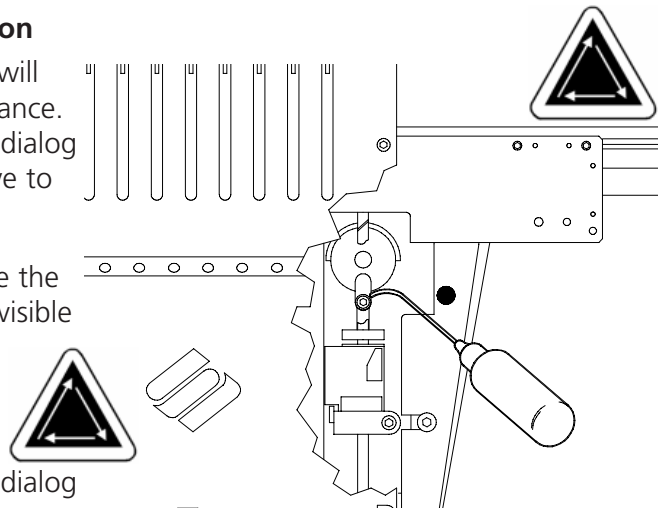

Figure 5-5
2. Figure 5-5 shows the lubrication hole inside the machine (the plate with the red dot is not visible in this view). To access this hole, insert the oiler through the hole as shown. Use a flashlight if needed. Repeat for each head.